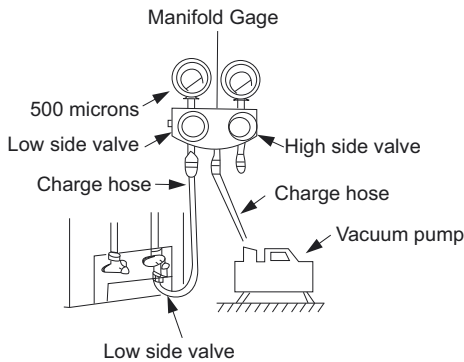

Fig. 9 – Manifold
- 3 Fully open the low side of manifold gage (see Fig. 9).